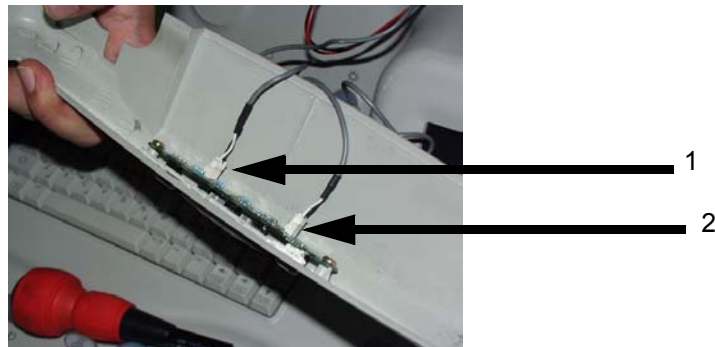

Figure 8-40 Disconnecting 2 cables
- 2.) Disconnect two connectors (1-2). Refer to Figure 8-40 on page 8-7 .